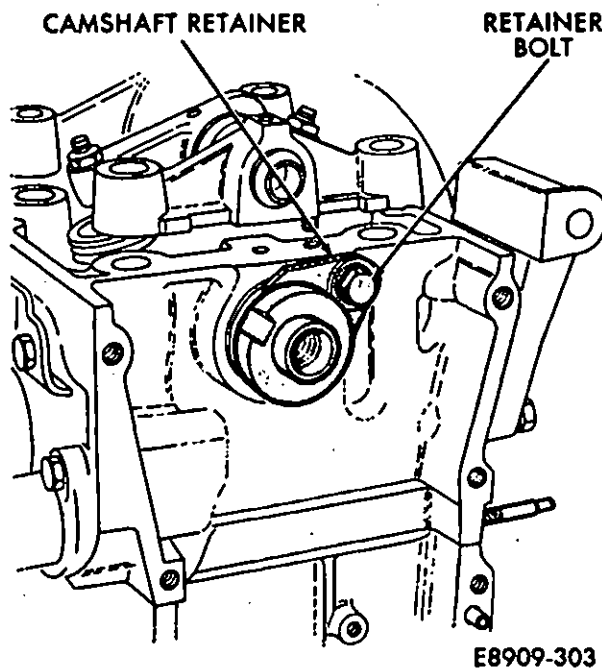

Fig. 15—Camshaft Retainer
(2) Loosen the camshaft retainer bolt and slide the retainer up and out of the groove in the camshaft (Fig. 15). Tighten the bolt.
(3) Slide the camshaft out the rear of the cylinder head.
(4) Replace any camshaft with worn lobes.